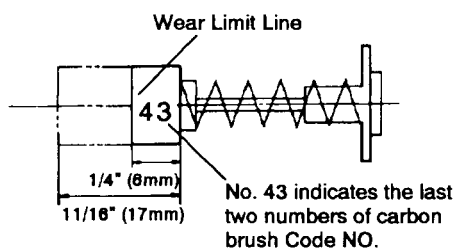

Fig. 44
- (1) Loosen the 8mm nut and tighten the four 8mm hexagon socket set screws until the power tool operates smoothly without looseness.
- (2) Properly tighten the 8mm nut after completing these adjustment.
3. Inspecting the carbon brushes (Figs. 44 and 45)
Therefore, inspect the brushes periodically and replace them when they have become worn to the wear limit line as shown in Fig. 44.